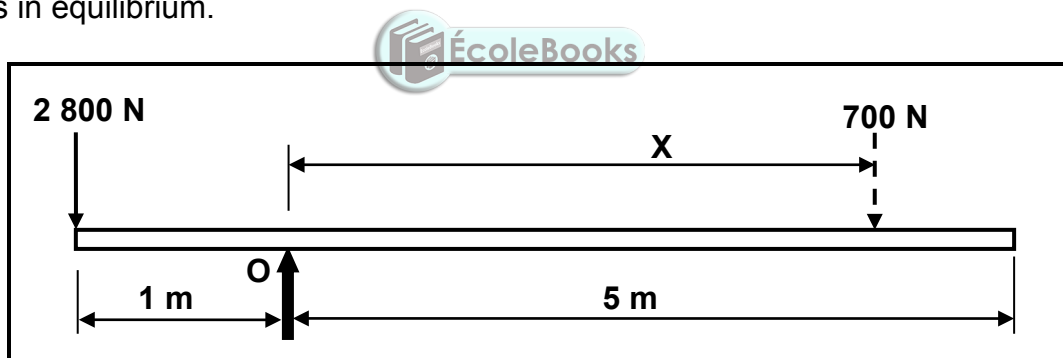

FIGURE 8.2
8.2 The diagram in FIGURE 8.2 below shows a beam with two vertical point loads of 2 800 N and 700 N acting on it. The beam is supported at point **O**. Calculate distance **X** from **O** to place the 700 N load to ensure that the beam is in equilibrium.